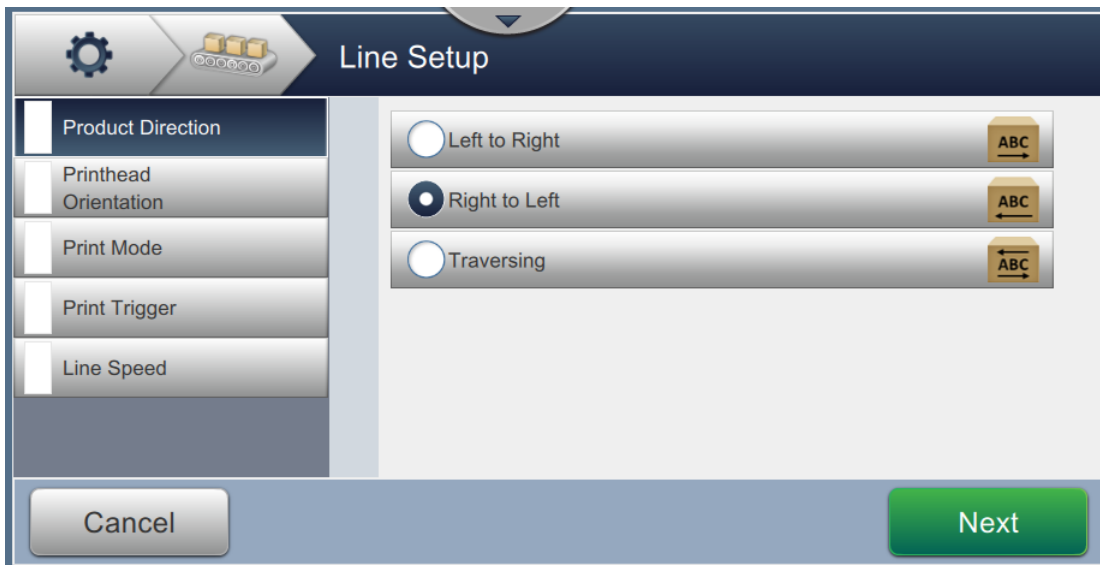

Figure 6-28: Line Setup Settings
4. To configure the Line Setup, follow the steps to progress through each setting, selecting the required option as shown in Figure 6-28.
1. Touch the option *Product Direction* on the line setup setting screen as shown in Figure 6-28.